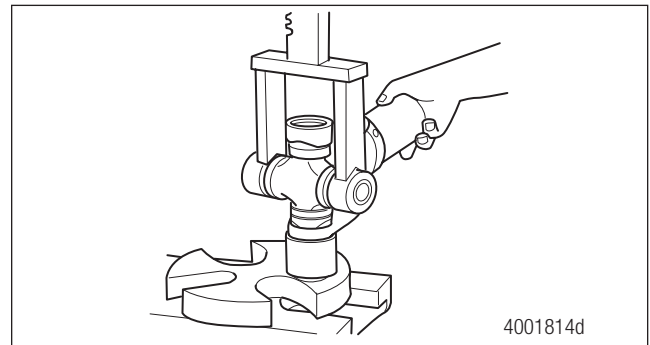

Figure 5.5
3. Rotate the shaft 180 degrees. Repeat the procedure for the opposite side of the universal joint. Figure 5.5.